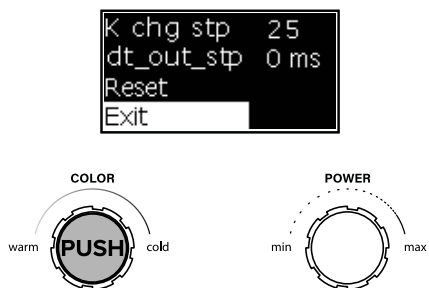

Fig. 41
3. After returning to the **User menu**, select **Exit** to save the settings (Fig.41).